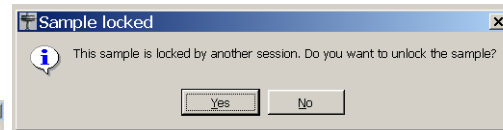

Figure 4.11 - Sample Locked menu
6. If the window in Figure 4.11 appears then APEX2 thinks the database is already in use. Answer "Yes" to close the window.